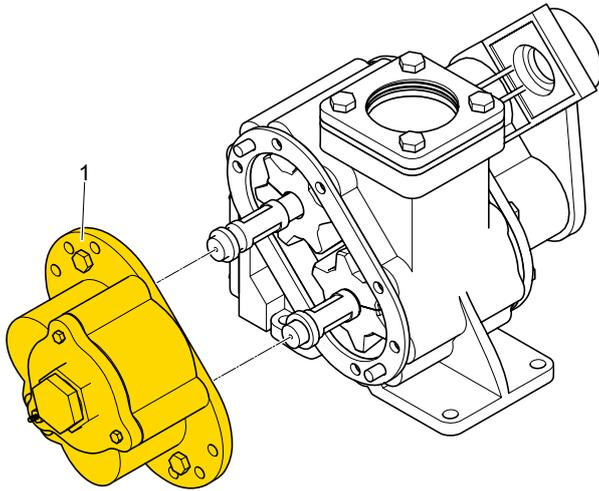
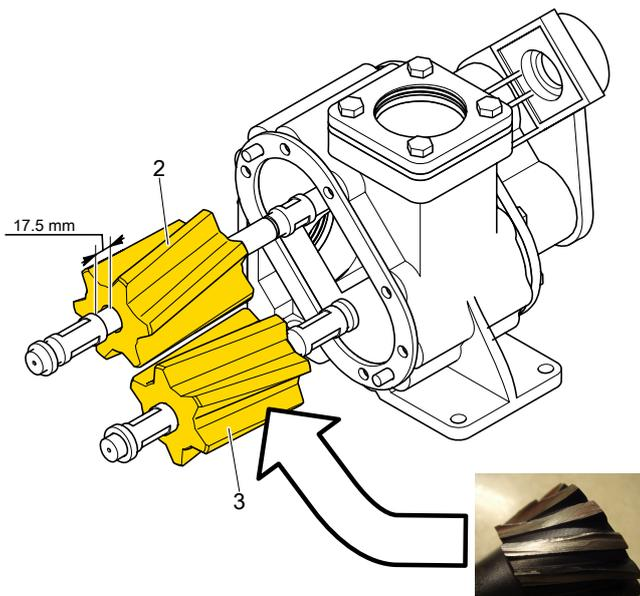
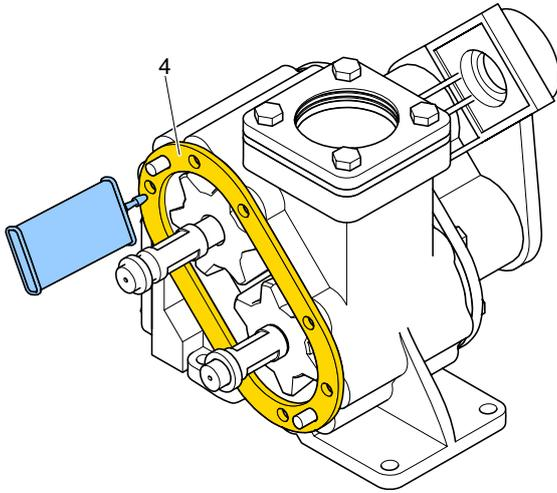

Figure 1: Pump Valve Housing
Figure 2: Rotors
Figure 3: Gasket
1. Remove the Pump Valve Housing [1] using number wrench 15 mm. (Fig. 1)
2. Remove the Pump Valve Housing (Fig. 1 [1]) and inspect the Rotors [2], [3] for cracks and fouling. Replace as appropriate using Maintenance Procedure JC0346. (Fig. 2)
3. Prior to re-installation of the Pump Valve Housing (Fig. 1 [1]), ensure the gasket is resealed with the correct gasket [4] sealant. (Fig. 3)